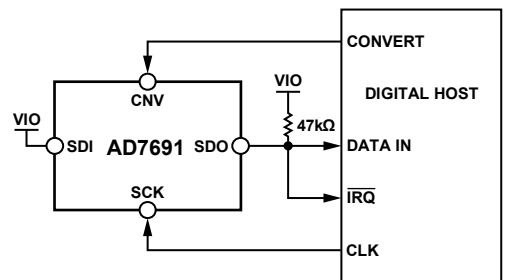
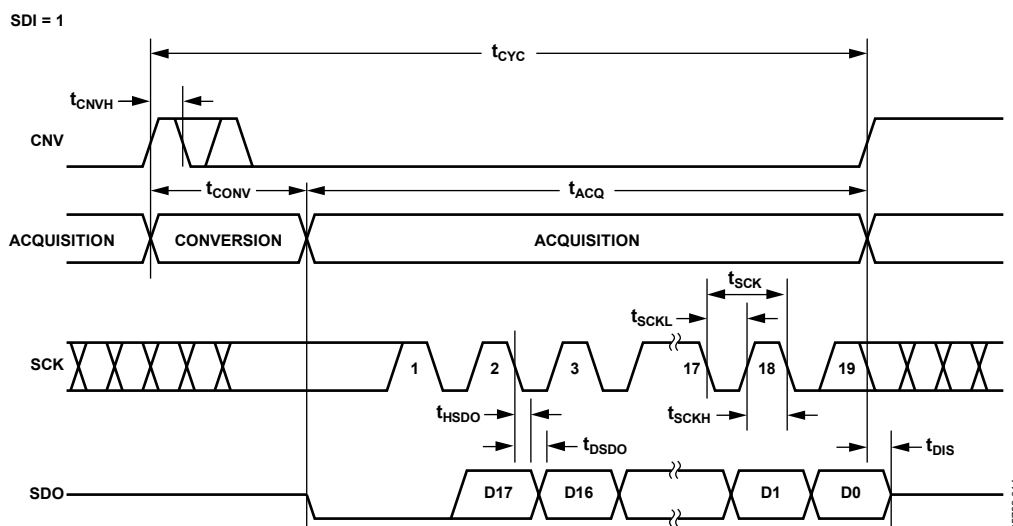
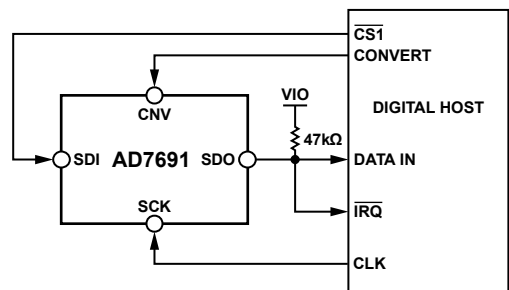
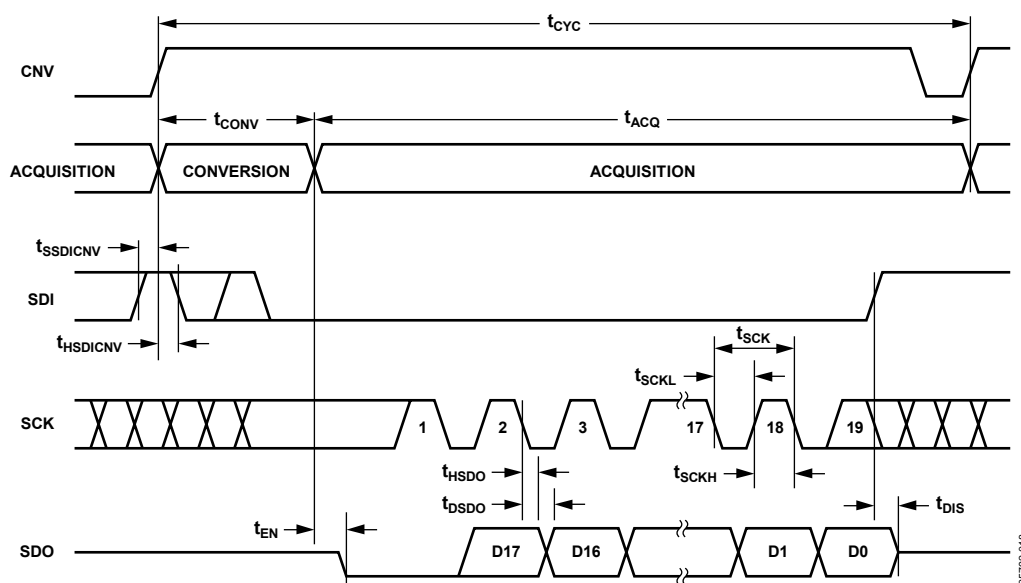

Figure 36. 3-Wire $\overline{\text{CS}}$ Mode with Busy Indicator Connection Diagram (SDI High)
Figure 37. 3-Wire $\overline{\text{CS}}$ Mode with Busy Indicator Serial Interface Timing (SDI High)
Figure 40. 4-Wire \overline{CS} Mode with Busy Indicator Connection Diagram
Figure 41. 4-Wire \overline{CS} Mode with Busy Indicator Serial Interface Timing
- In the $\overline{\text{CS}}$ mode if CNV or SDI is low when the ADC conversion ends (see Figure 37 and Figure 41).
The connection diagram is shown in Figure 36, and the corresponding timing is given in Figure 37.
The connection diagram is shown in Figure 40, and the corresponding timing is given in Figure 41.